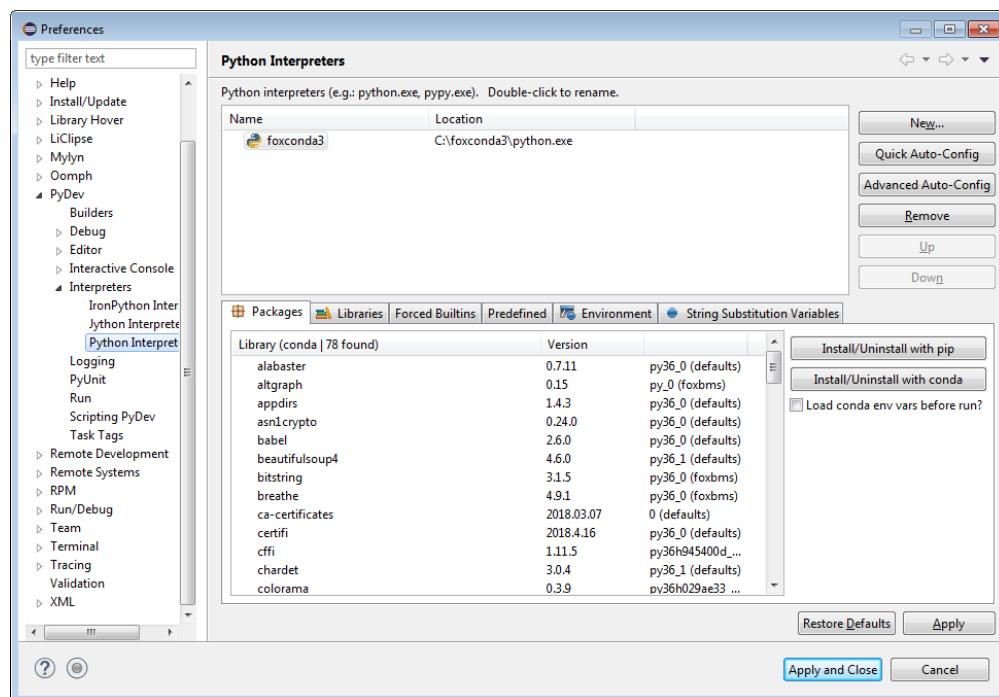

Fig. 11.9: Configuration done
5. Click **Apply and Close** in the next window, as shown in Fig. 11.9.